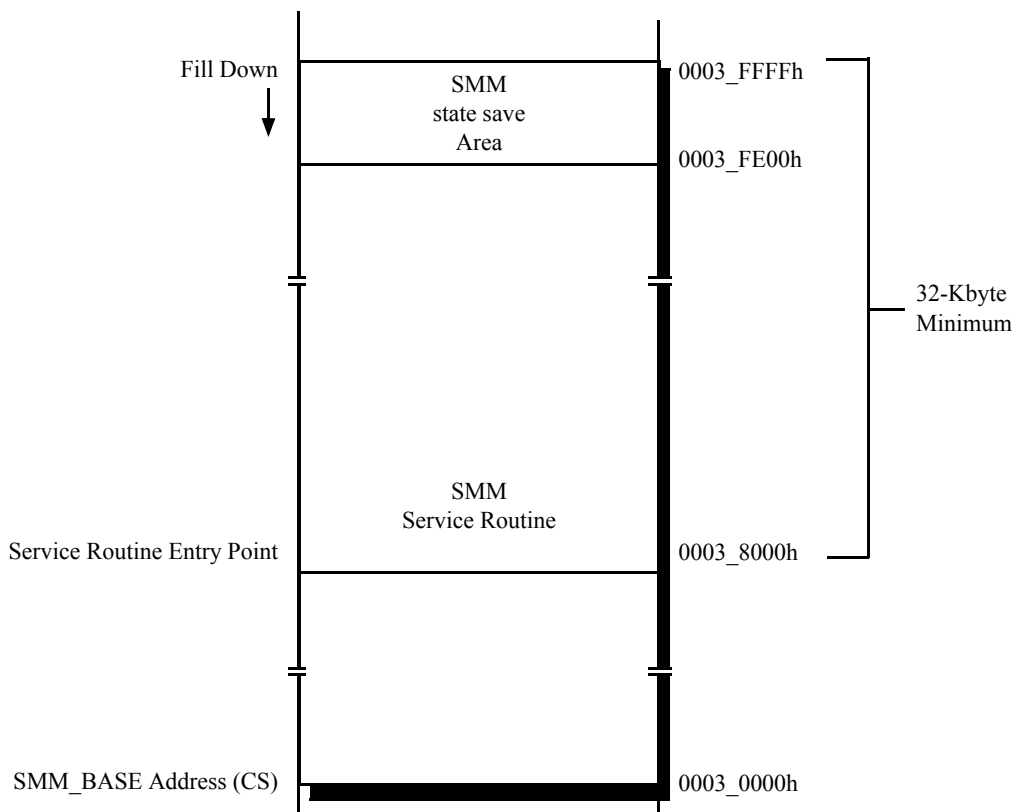

Figure 6. Default SMM Memory Map
Figure 6 on page 261 shows the default map of the SMM memory area. It consists of a 64-Kbyte area, between 0003\_0000h and 0003\_FFFFh. The top 32 Kbytes (0003\_8000–0003\_FFFFh) must be populated with RAM. The default code-segment (CS) base address for the area (called the SMM\_BASE address) is 0003\_0000h. The top 512 bytes (0003\_FE00–0003\_FFFFh) are the SMM state save area. The default entry point for the SMM service routine is 0003\_8000h.